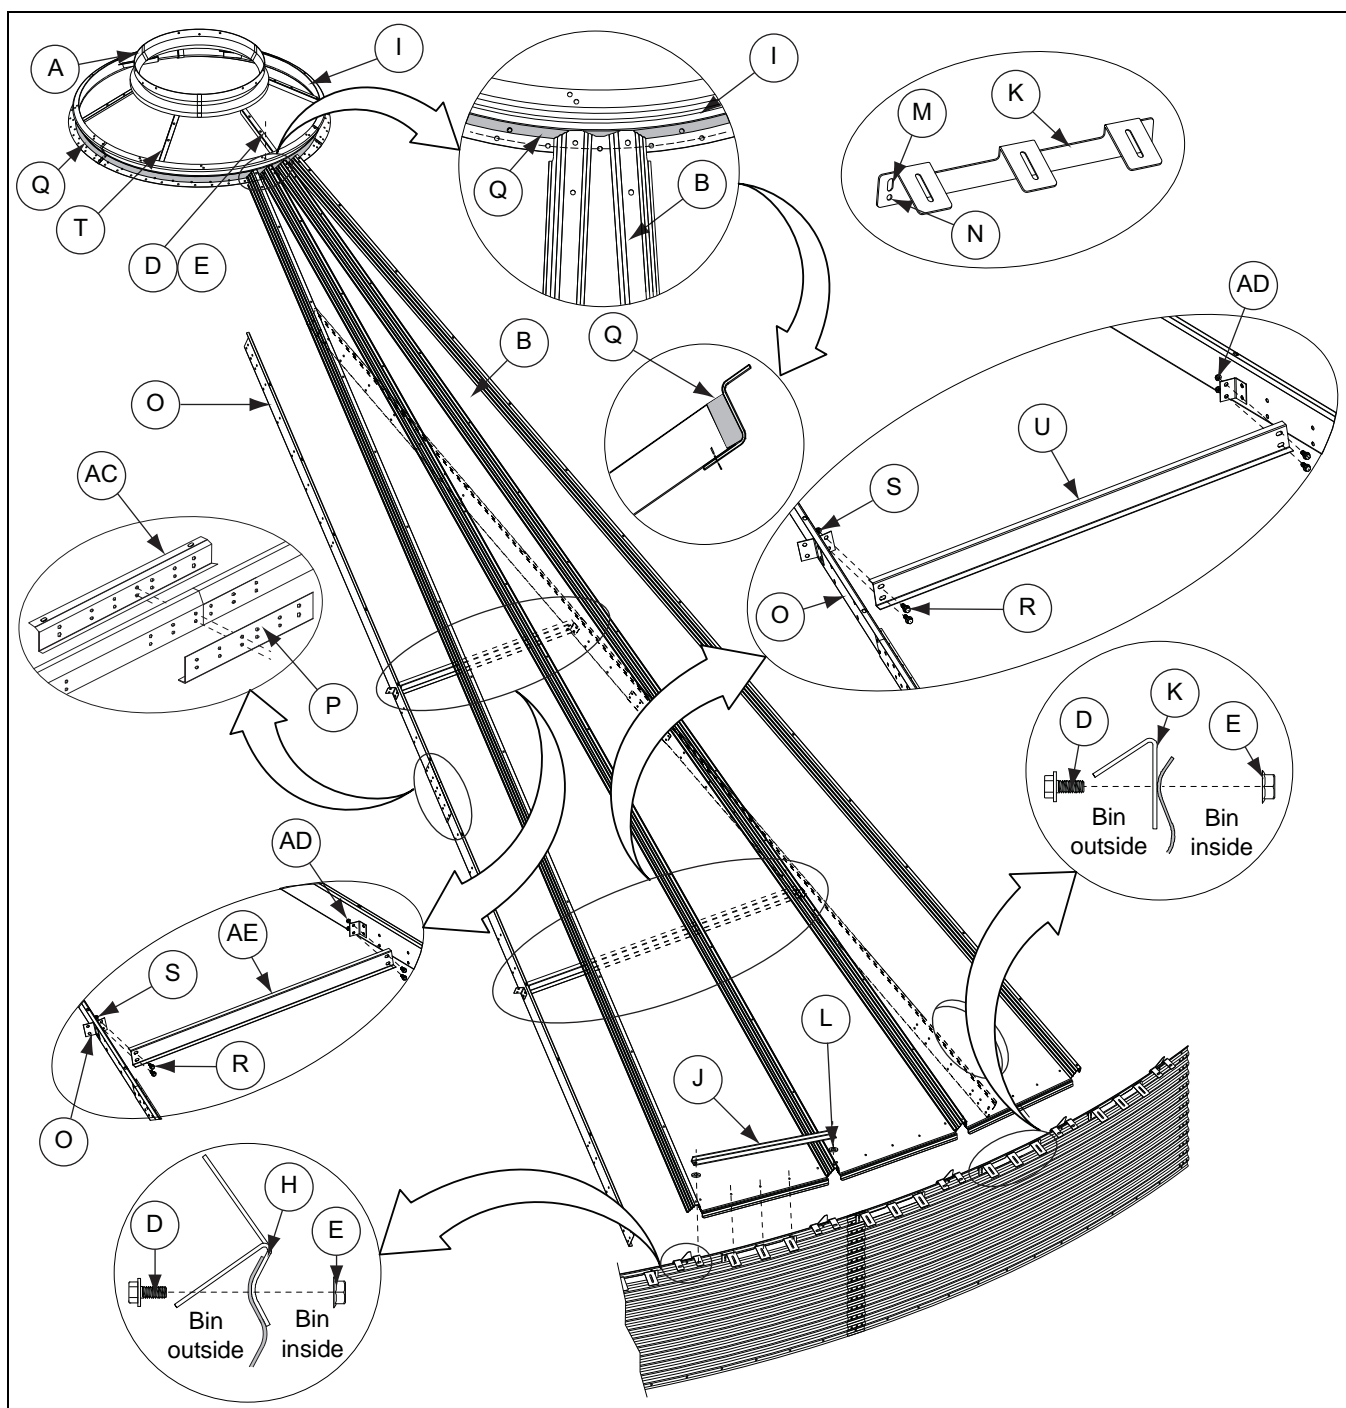

Figure 9N
9. Install the roof channel (O) under the ribs of the roof panels (B). Make sure to start the roof channel assembly from the fourth hole from the bottom of the roof panel rib.
10. Install the purlins (U and AE) between the purlin clips with the bolts (D) and nuts (E) as shown in Figure 9N.
NOTE: For 48' diameter bins, the gap between the intermediate center collar (I) and the roof panels (B) will be sealed with foam sealant (Q) around the center collar. (See Figure 9N.)